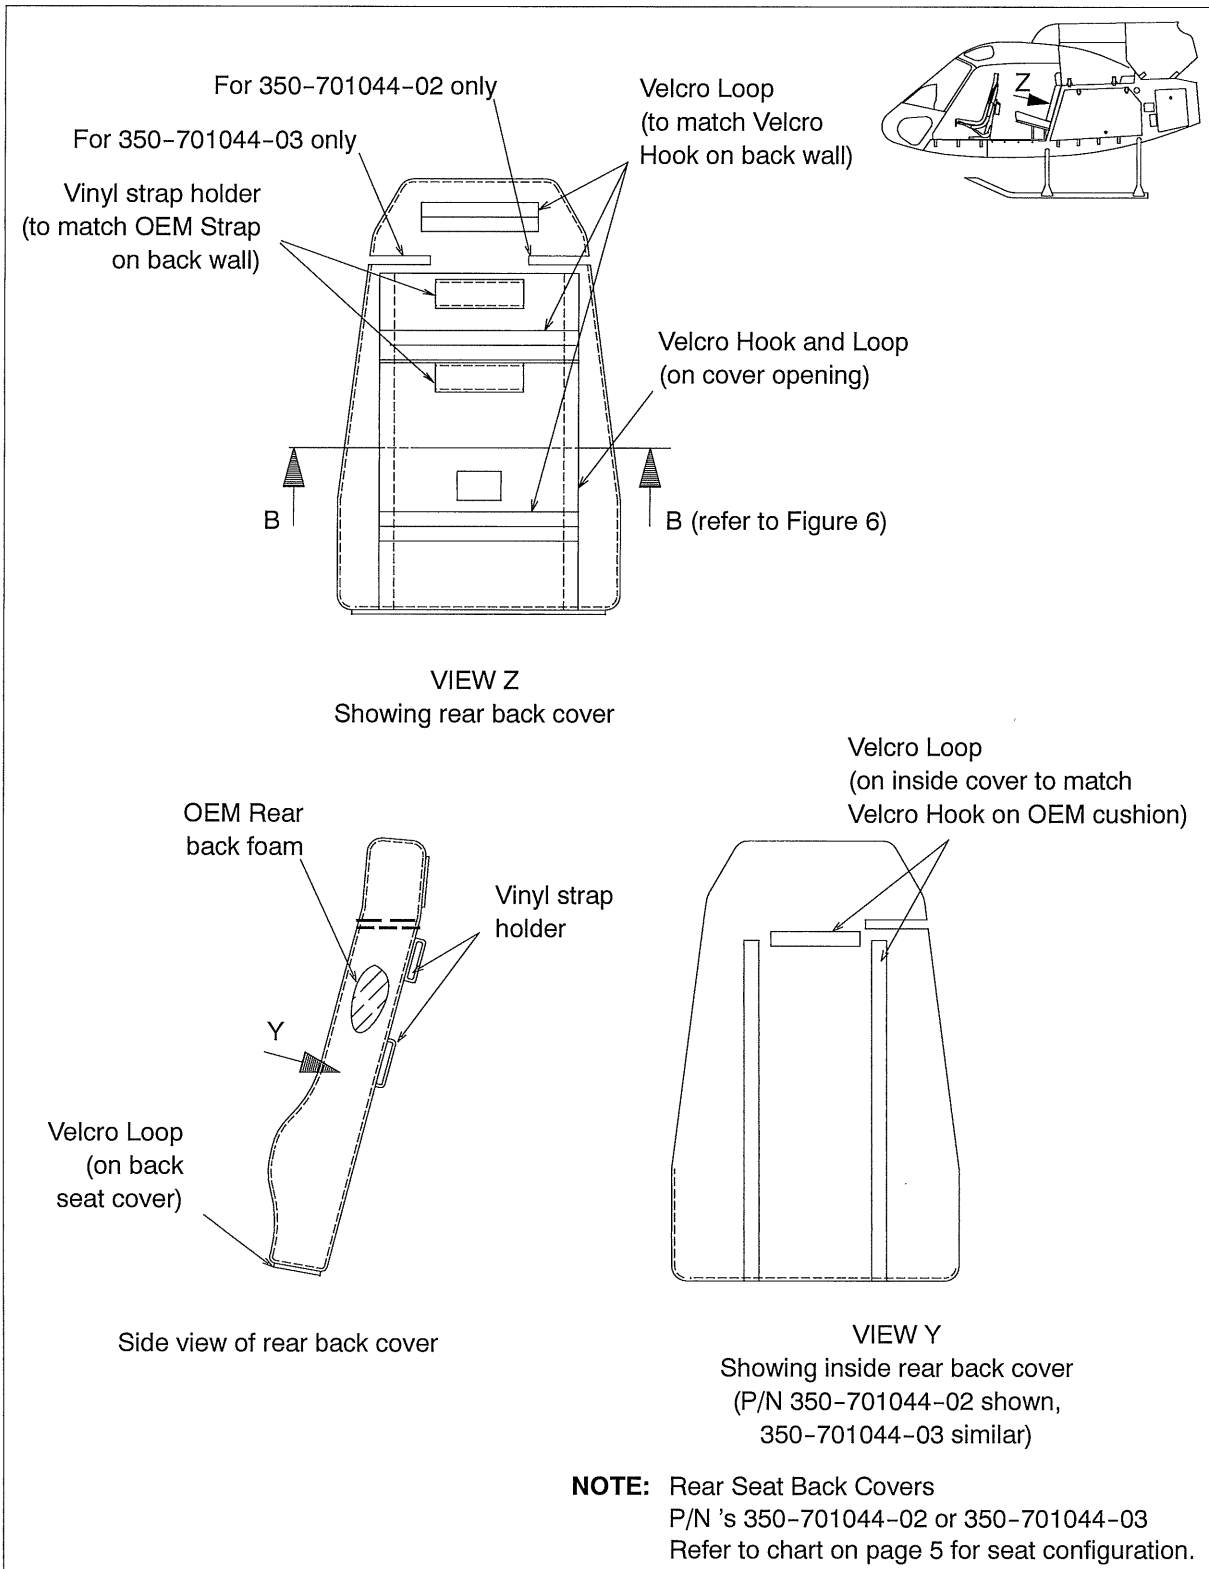

Figure 4 Rear Bush Seat Cover Details
2) REAR SEAT COVER (Refer to Figures 4 and 5)